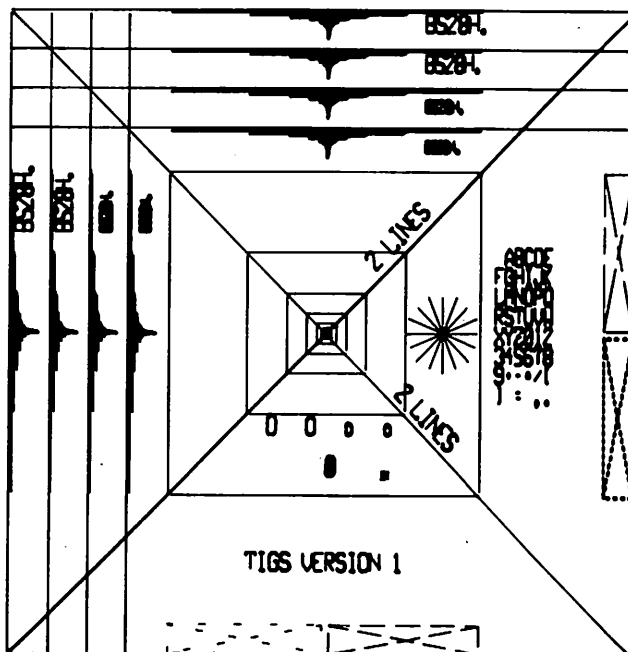

Figure 7-5. Figure Displayed on the CDC 795 Terminal
11. Figure 7-5 will be displayed.